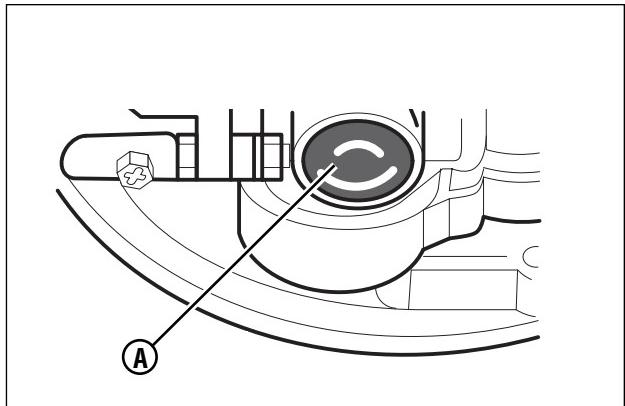

Figure 15: The engine primer button
5. The primer button (**A**, Figure 15) is on the side of the engine. Push the primer button. Every time you push the primer button, wait two seconds. For the number of times required to push the primer button, see the engine manufacturer's instructions.